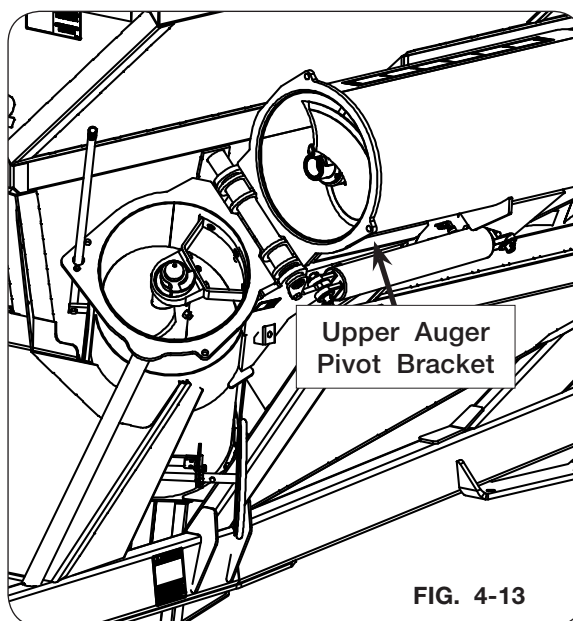

FIG. 4-13
6. With auger tube fully supported, loosen two 3/4"-10UNC x 3" capscrews and remove 7/8"-9UNC x 2" capscrews (9390-164) and flat washers (97041) from the upper auger pivot bracket. (FIG. 4-13)